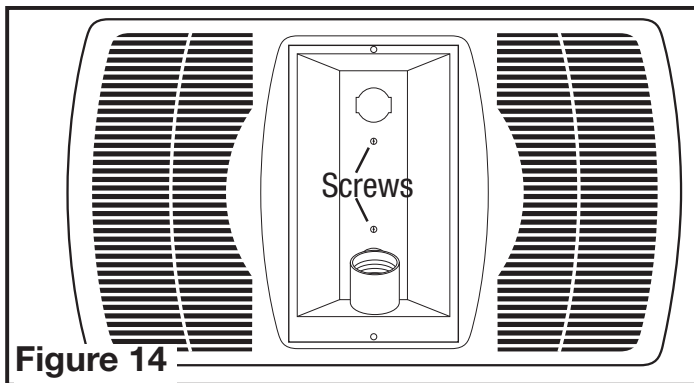

Figure 14
4. Attach light reflector in place with the two screws removed during **Step 2** in **SECTION 1 Preparing the Unit** so grill fits snugly against ceiling (**Figure 14**).